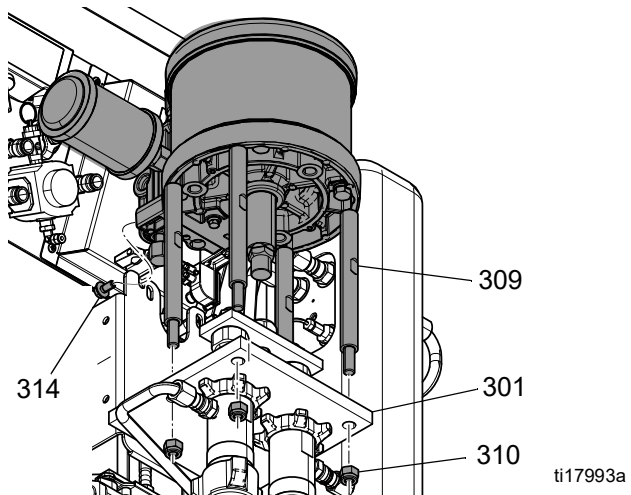

FIG. 2
3. Install tie rods through plate (301). Ensure screws (314) fit in the bracket slots (311). Install screws (314). See FIG. 2, page 26.
4. Tighten nut (313) to 32-38 ft-lbs (43-51 N•m).
5. Evenly torque four tie rod nuts (310) in small increments to 27-32 ft-lbs (37-43N•m). See FIG. 2, page 26.